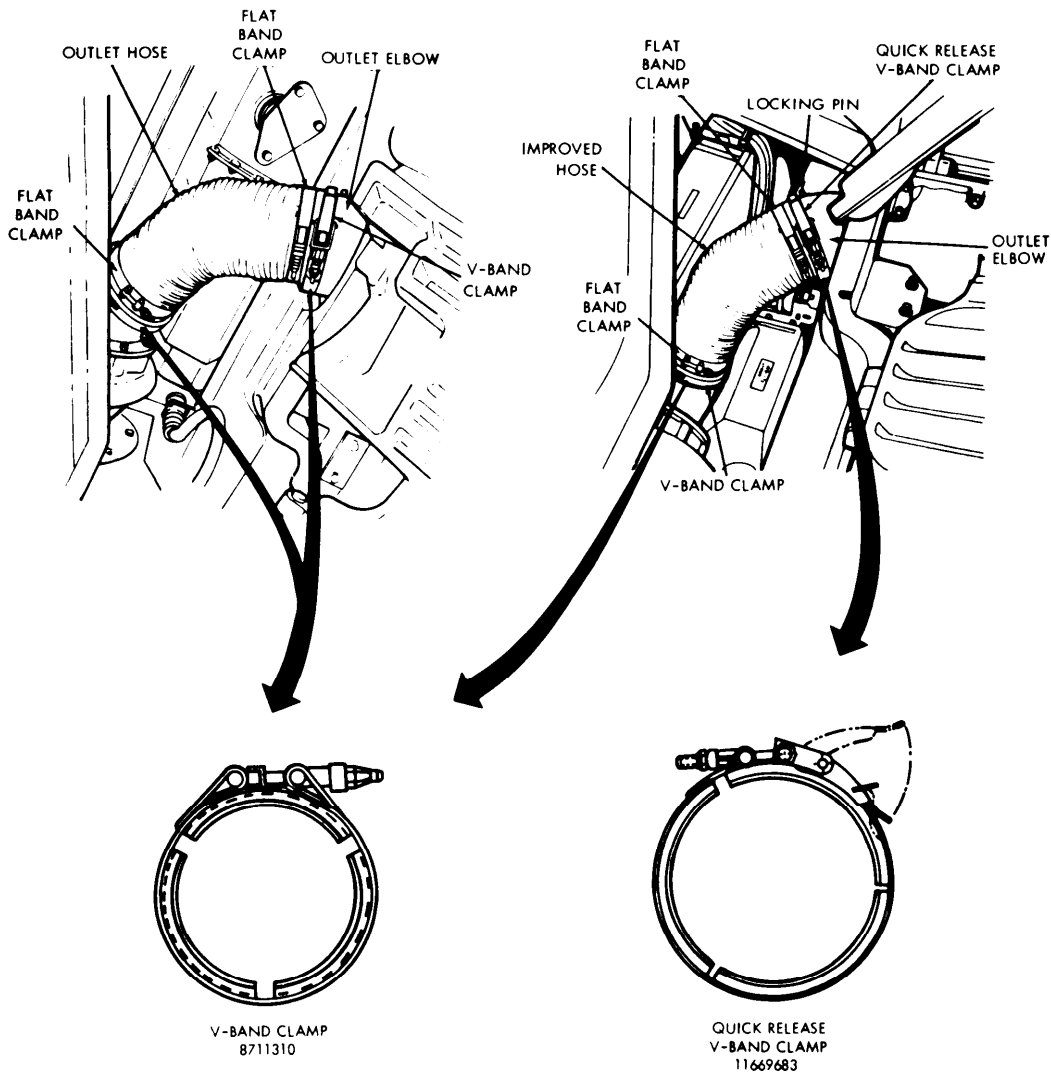

Figure 4-11. V-band clamps.
**4-6. V-Band Clamps (Fig. 4-11)**